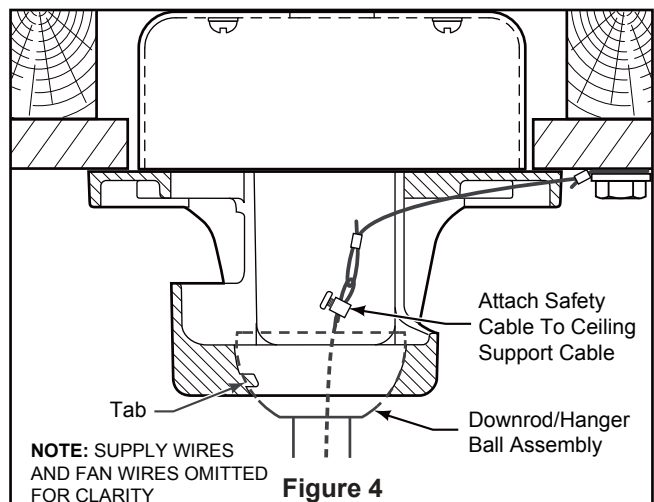

Figure 4
4. Insert downrod into the downrod support on top of the motor. Install the clevis pin by aligning the holes in the downrod support with holes in the downrod. Secure clevis pin with hairpin clip. Tighten the two set screws with nuts in the downrod support. (Figure 4)
- ☐ 4. Carefully lift the fan and seat the downrod/hanger ball assembly onto the hanger bracket that was just attached to the outlet box. Be sure the groove in the ball is lined up with tab on the hanger bracket. (Figure 4)
- ☐ 5. Attach the safety cable to ceiling support cable. Slide cable clamp and washer onto safety cable (from fan). Place the end of cable through the loop of ceiling support cable. Pull as much cable through loop as possible. Feed end of cable into clamp hole and firmly tighten screw. (Figure 4)
3. Connect green wires from hanger bracket, hanger ball and ground from supply using wire connector. Connect black wire from receiver unit marked “AC IN L” to black supply wire using wire connector. Connect white wire from receiver unit marked “AC IN N” to white supply wire using wire connector. Connect white wire from receiver unit marked “TO MOTOR N” to white wire from fan using wire connector supplied with receiver unit. Connect black wire from receiver unit marked “TO MOTOR L” to black wire from fan using wire connector supplied with receiver unit. Lastly, connect blue wire from receiver unit to the blue fan light wire using wire connector supplied with receiver unit. (Figure 4)